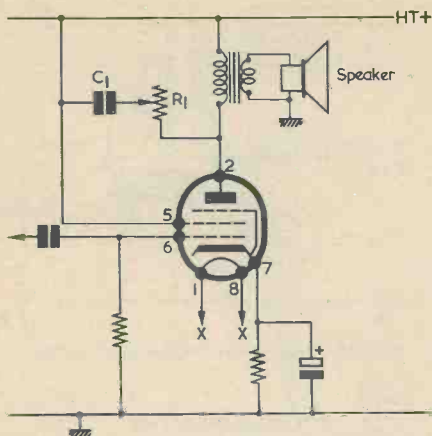
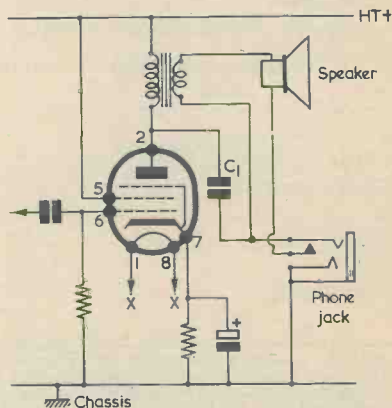

Fig. 12. Output stage with tone control circuit
Fig. 13. Output stage with headphone jack
Components List (Fig. 12)
Components List (Fig. 13)
- C_1 As for Fig. 13
There are several methods of achieving tone control in a receiver and one of these is shown in Fig. 12. In this, as in Figs. 13 and 14, the values
The tone control shown in Fig. 12 is given by the inclusion of C_1 and R_1 in the anode circuit of the output stage of Fig. 1. The potentiometer R_1 should, of course, be mounted on the front panel. It is important that capacitor C_1 be of a suitable working voltage rating, in this case 350V. C_{21} of Fig. 1 is deleted when the circuit of Fig. 12 is used.
The inclusion of a headphone jack in the output stage is of advantage where serious short wave work is desired. In the main, this is carried out late at night and, in order to avoid disturbing other members of the household, the use of headphones becomes imperative. Additionally, of course, the use of headphones is much to be preferred where serious short wave work is concerned. Good quality headphones are, of course, much more sensitive than a speaker. High resistance types ($2,000\Omega$) should be used with this receiver. The headphone jack must be wired into circuit such that, when the headphone plug is inserted into circuit, the speaker is automatically muted. Fig. 13 shows how this may be carried out.
in Fig. 13 is automatically made when the jack is secured to the metal front panel.